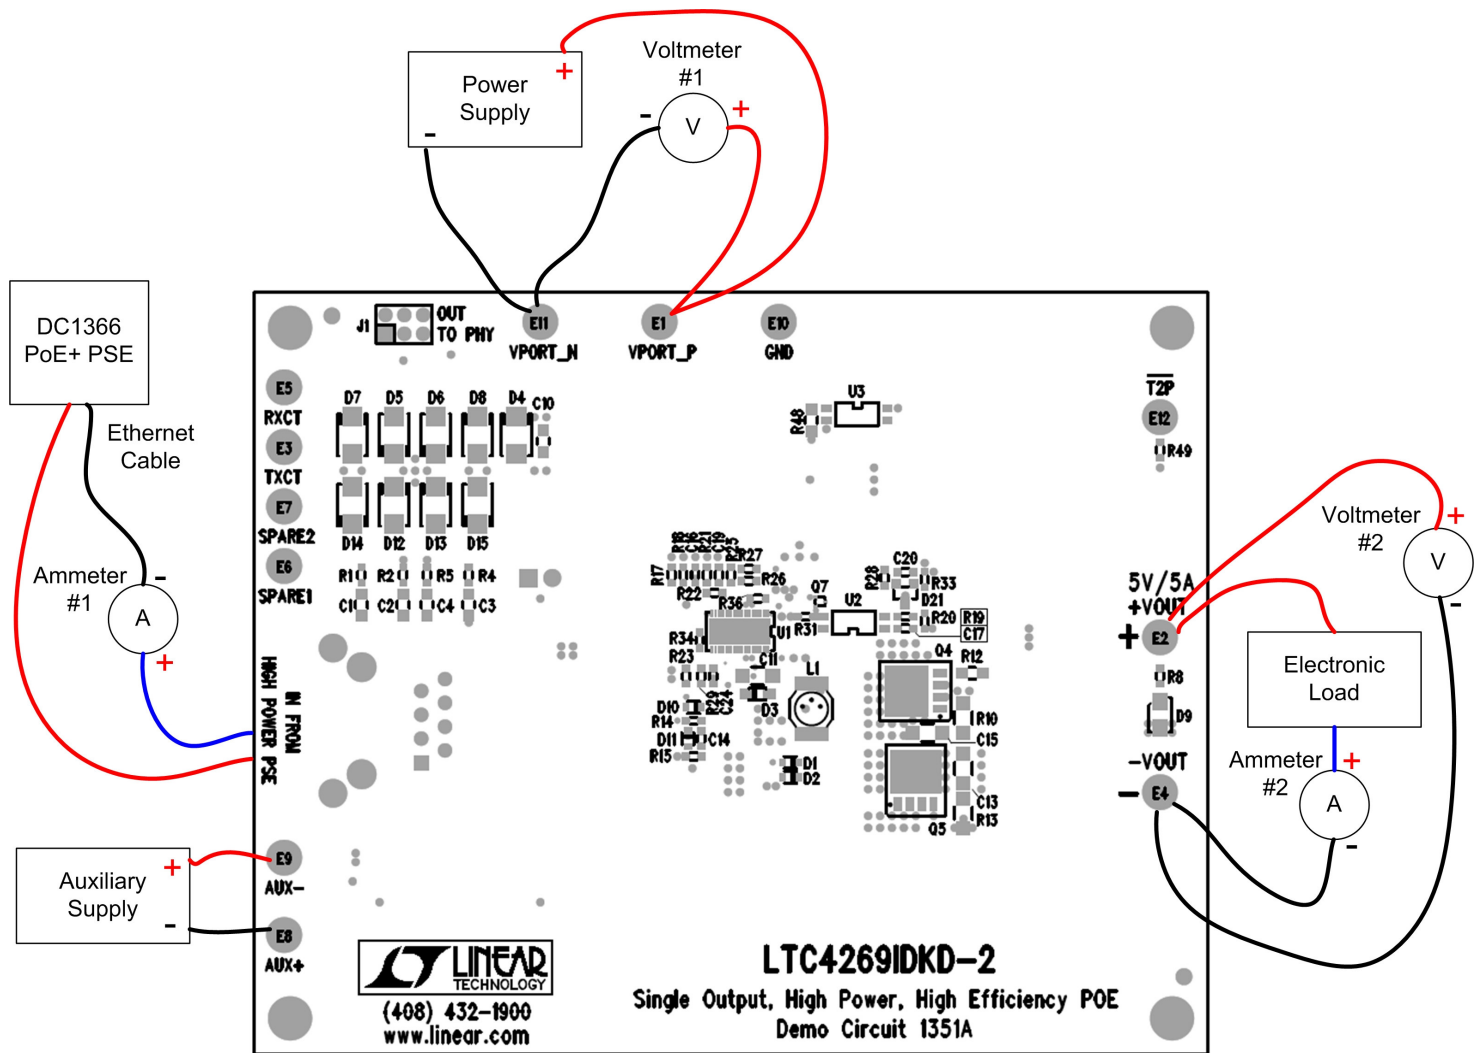

Figure 1. Proper Measurement Equipment Setup
Demonstration circuit 1351A is easy to set up to evaluate the performance of the LTC4269IDKD-2 in a PoE+ PD application. Refer to Figure 1 for proper equipment setup and follow the procedure below:
- a. Connect a PoE+ capable PSE with a CAT-5 cable to the RJ45 connector, J2. See Figure 1.
- b. Or, connect a 37V to 57V capable power supply ("Power Supply" in Figure 1) across VPORT_P and VPORT_N.
- c. If evaluating the auxiliary power supply ("Auxiliary Supply" in Figure 1) capability, connect a 44V to 57V capable power supply across AUX+ to AUX-.